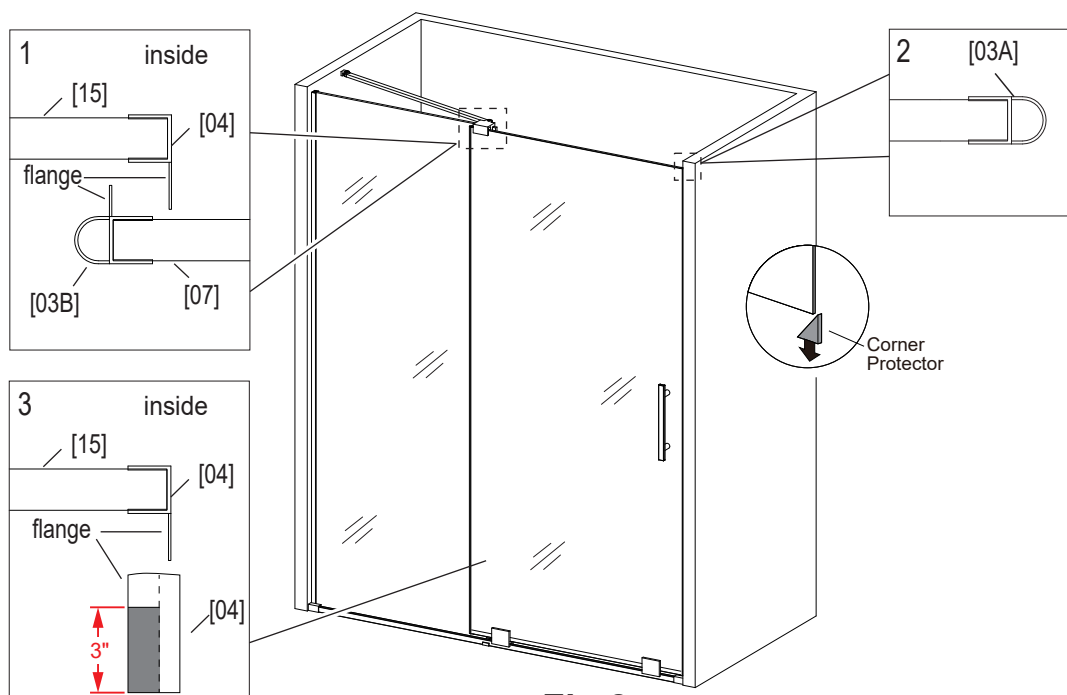

Fig 8
1. Remove the **Corner Protectors** from the **Door [07]**. (Fig 8)